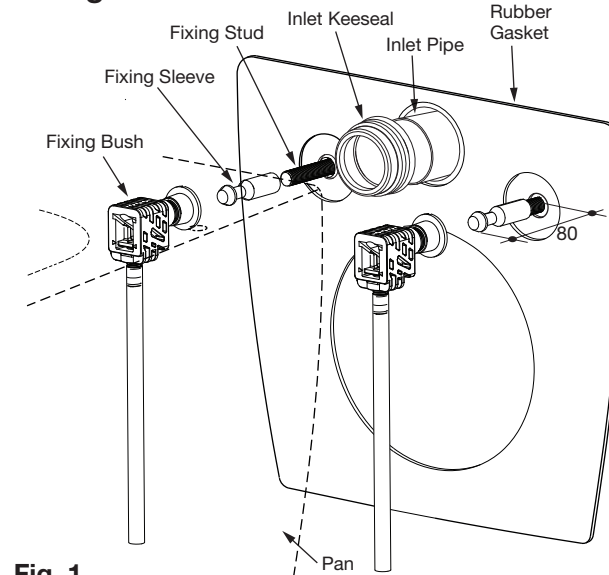

Fig. 1
- 5- Fit Inlet Kee Seal onto the Inlet Pipe, as detailed in **Fig. 1**.
- 6- Fit Rubber Gasket into position, as detailed in **Fig. 1**.
- 7- Fix the Fixing Sleeves onto Fixing Studs. Make sure tip of Fixing Sleeves are 80mm from finished wall, as detailed in **Fig. 1**.